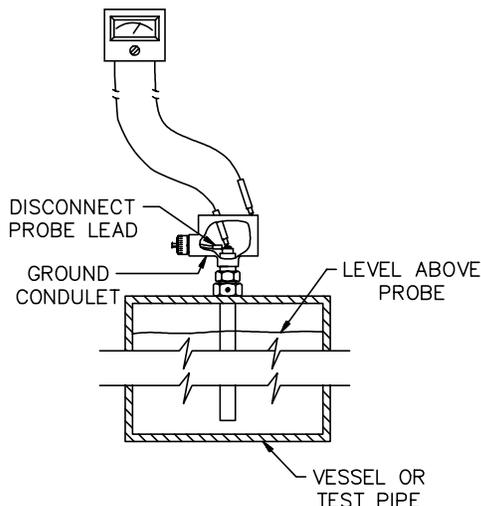

Figure 5-3
B. Check the resistance of the probe-to-ground with level above the probe. See Figure 5-3. Resistance readings less than 100K ohms indicate either defects in the probe insulation or, if a bare probe, that the material is conductive and an insulated probe may be required. (Consult factory.)